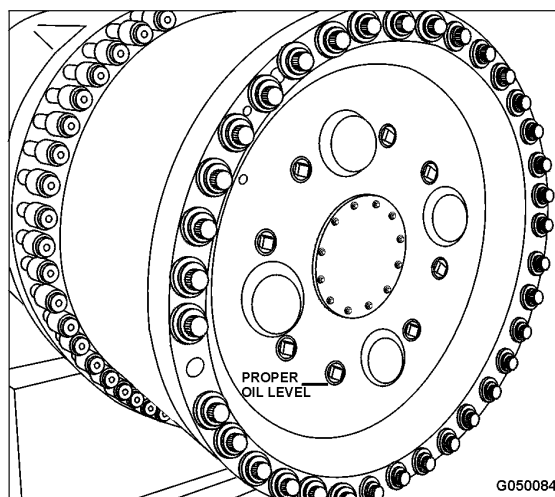

FIGURE 2-8.
10.	MOTORIZED WHEELS - Check for the correct oil level. Rotate a magnetic plug to the 6 o'clock position and remove the plug. The oil level should be even with the bottom of the plug opening. Inspect the magnetic plugs for ferrous materials. Service the wheel motor as necessary. Refer to Figure 2-8.